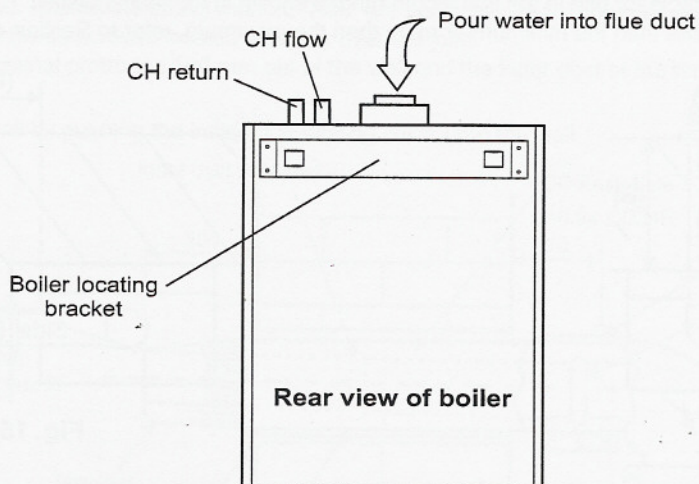

Fig. 12
**Note:** Ensure the flow and return pipes are correctly connected to the boiler. Refer to Fig. 12.
4. Connect the 22 mm condensate trap drain pipe to the condensate discharge pipe. Ensure that the condensate discharge pipe is as required in Section 3.11. Pour at least 0.5 litre of water into the flue duct, as shown in Fig. 12, and check the condensate discharge pipe for soundness.